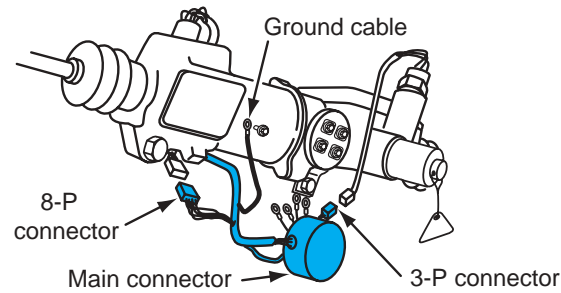

Figure 13-24 Installing wiring connectors on the rear steering actuator.
5. Check all the wiring connectors for contamination and clean as necessary. Install all the wiring connectors on the rear steering actuator and tighten all the terminal nuts to the specified torque (Figure 13-24).